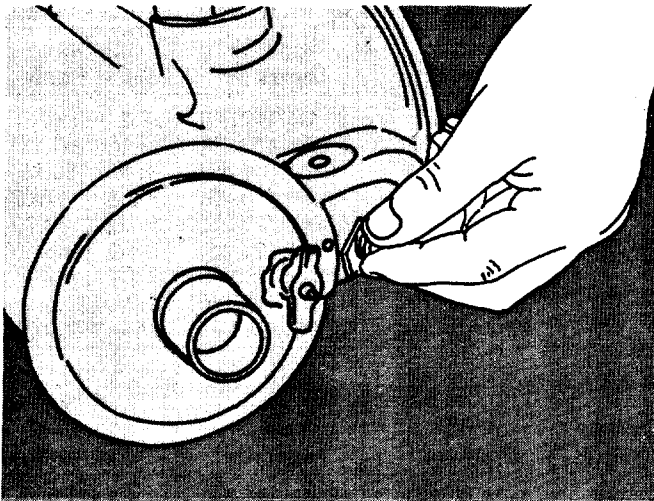

Fig. 7-37. Install The Retaining Plate.
11. Install the retaining plate with a retaining screw, lockwasher and plain washer, Fig. 7-37. Tighten the screw to 5 to 6 ft.-lbs. [6 to 8 Nom] torque.